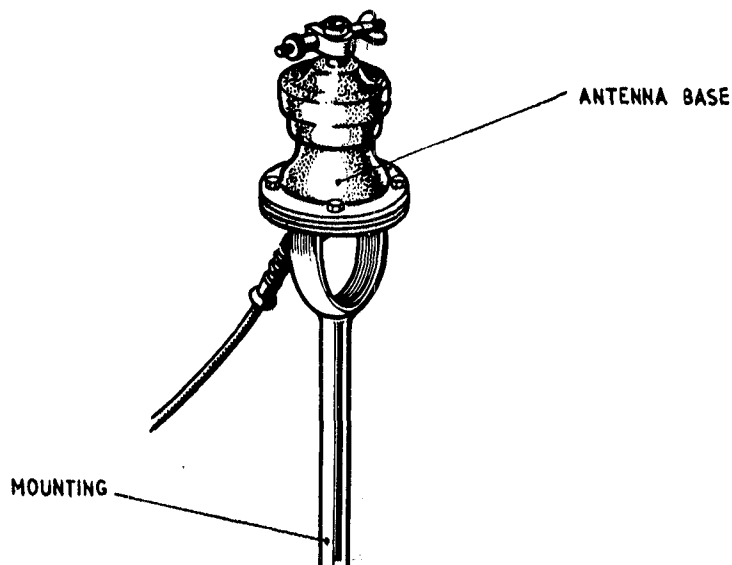

FIG. 4 FITTING THE ANTENNA BASE
19. After fitting the antenna connector to the terminal inside the antenna base, fit the antenna base to the flange on the top of the mounting tube. Fit a plate, plastic, between the antenna base and the flange and secure the assembly by means of the six screws $\frac{1}{4}$ -in UNF, nuts and spring washers supplied with the mounting. See fig. 4.